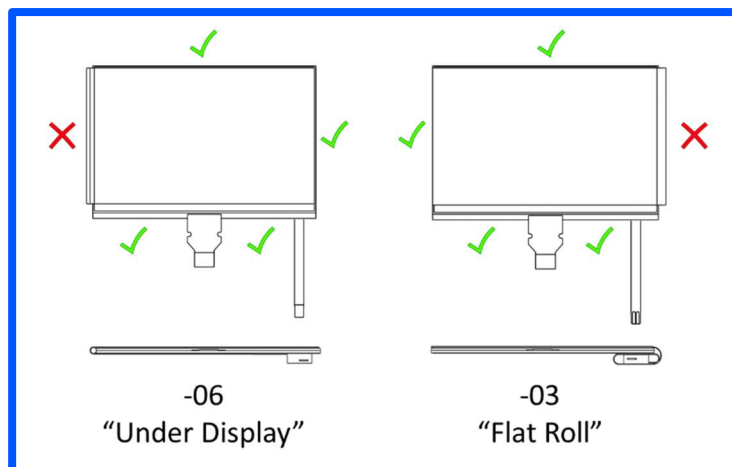

Figure 13. Identification of edges to be used for handling and mounting Azumo LCD 2.0 in final product.
8. When handling the product, grasp onto the LCD edges that are not covered by the FLP (see Fig. 13).
- a. Non "OB" Display Assemblies: Mount the Azumo LCD 2.0 product within its final assembly by providing support along the back of the LCD panel and/or along the hard edges of the LCD panel glass not covered by the FLP, as shown in Fig. 13. Avoid mechanical contact with FLP.